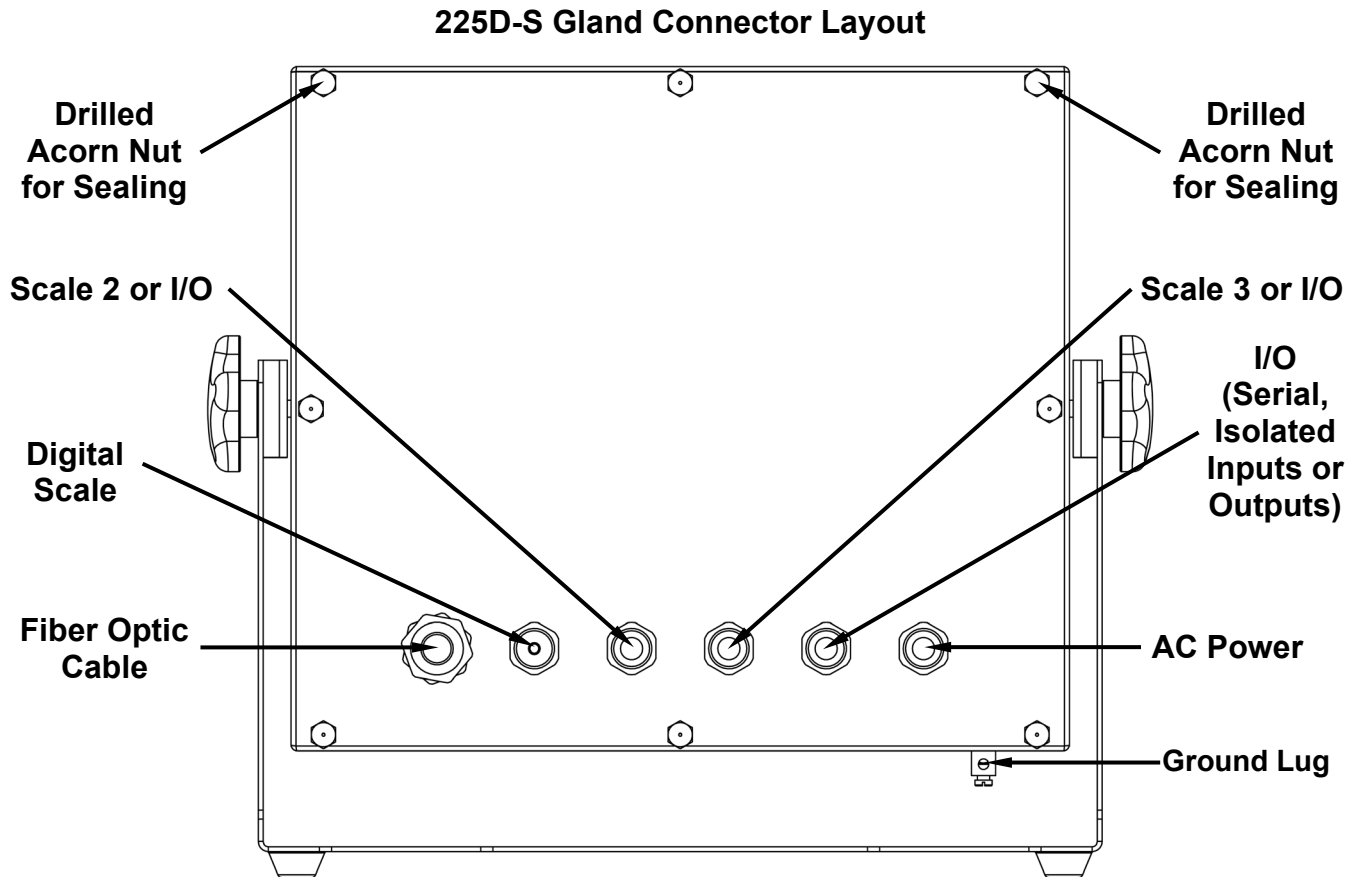

Figure No. 5
The short section of Homerun Cable from the INDICATOR terminal block in the POWER-DLC should be routed through the metallic gland connector, identified as **Digital Scale**, in Figure No. 5 (225D-S Gland Connector Layout).
1. Referring to Figure No. 5, remove the 8 acorn nuts securing the rear panel to the front enclosure, and remove the rear panel.